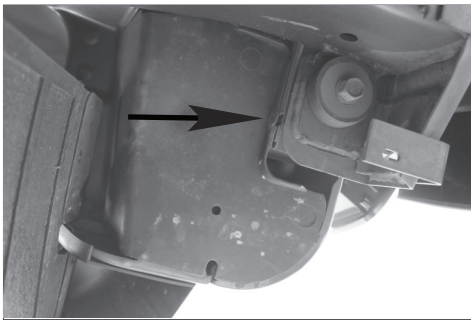

Figure 2
3. Starting on driver's side remove plastic shield located underneath taillight cavity by removing plastic clip that holds it in place shown in **Figure 2**. Position the RV harness with connectors containing Yellow wires between separated vehicle harness connectors. Press connectors firmly into the vehicle connectors until they lock into place. Pull on connectors to ensure the locks are engaged. Re-apply foam tape removed in Step 2.